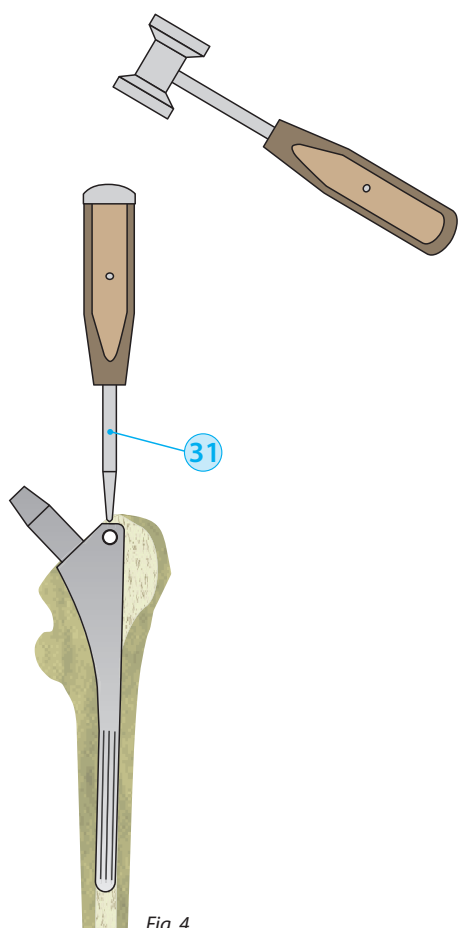

Fig. 4
To insert the cementless revision stem in the femur, use a stem impactor ③①. To enable it to be fitted on the endoprosthesis, there is a 4 mm diameter hole in the stem axis. Insert the component so that it sits firmly on the femoral calcar (Fig. 4).